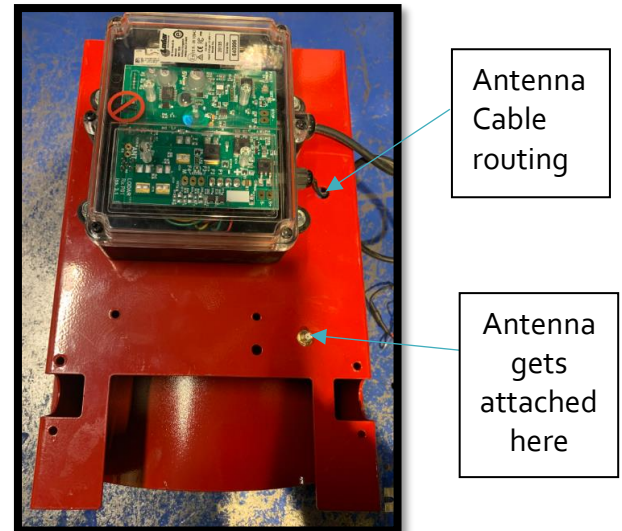

Figure 12: Antenna Wire Routing
- b. Use Pliers to cut the clip holding wires together on Receiver. Unscrew nut and washer on end of antenna cable to be able to fit it through hole. Route antenna wire inside Receiver tube mount as shown in Figure 12. Attach nut and washer back onto screw to secure through hole using 5/16" wrench.